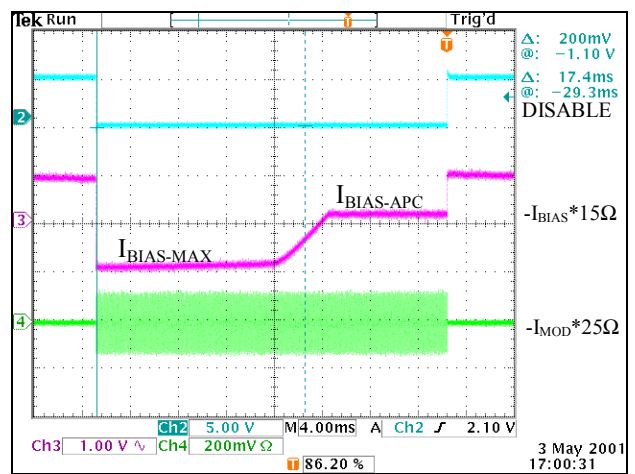
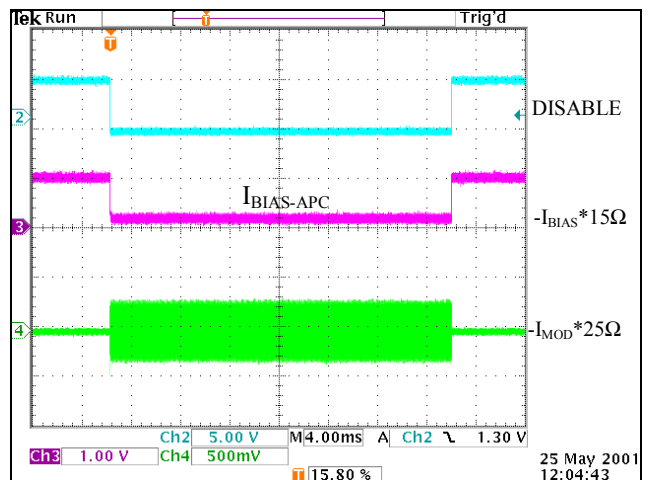
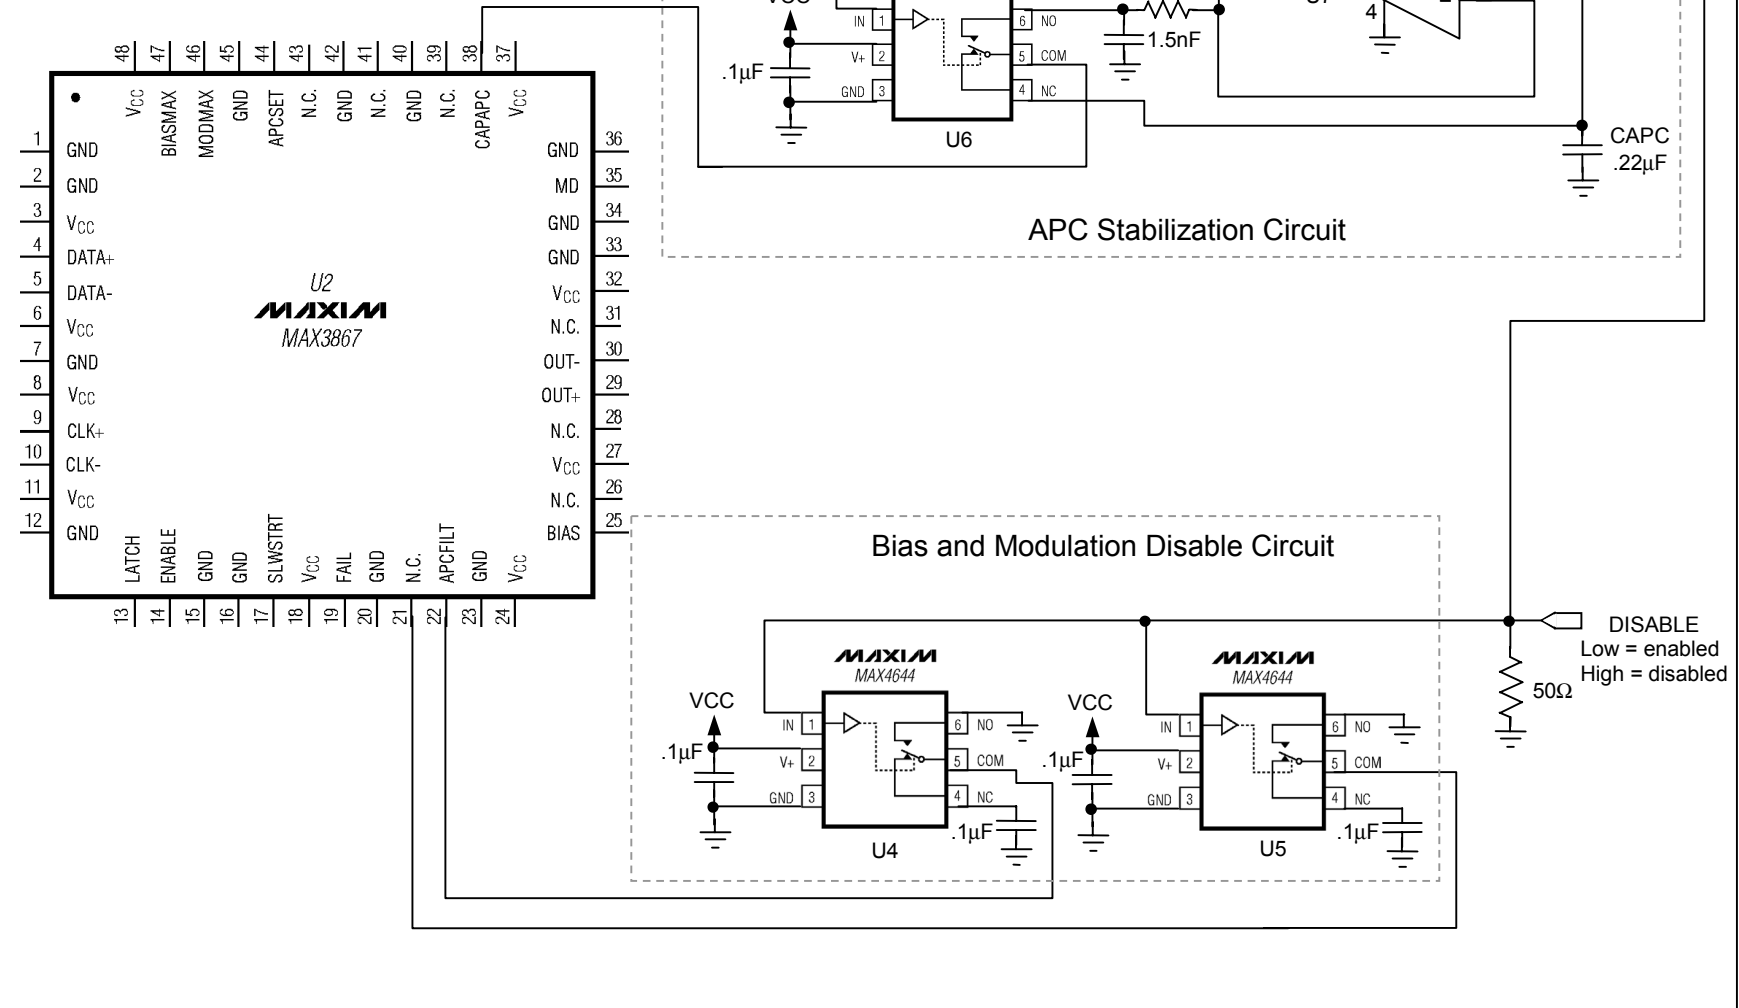

Figure 4. Oscilloscope plot showing bias current with nonstabilized APC loop
Figure 5. Oscilloscope plot showing bias current with stabilized APC loop
Figure 6. Schematic showing burst-mode modifications to the MAX3867 evaluation kit
The measurements included in this design note were made using a MAX3867 EV kit (electrical configuration) that was modified as shown in the schematic in Figure 6. Two MAX4644 analog switches (U4 and U5) were used to ground pins 21 and 22.
Switching the bias current on and off (as described above) can cause the automatic power control (APC) circuit in the MAX3867 to malfunction. This is because the APC loop time constant (controlled by C_{APC}) is long compared to the burst time. While the bias current is disabled, the APC loop does not function, and the bias current increases toward $I_{BIASMAX}$. When the bias current is enabled (during a burst), the APC circuit will adjust the bias current toward I_{APCSET} . Thus, when the MAX3867 is operated with the APC circuit in the "closed-loop" mode, the bias current can change during each burst, as shown in Figure 4. The beginning and ending values of the bias current are determined by the length of the off/on times and by the value of C_{APC} , $R_{BIASMAX}$, and R_{APCSET} .
APC loop stabilization is accomplished by the circuit illustrated by U6 and U7 in the schematic (Figure 6). This circuit connects the C_{APC} capacitor to the CAPAPC pin when the laser driver is enabled (during a burst) and disconnects the C_{APC} capacitor when the laser driver is disabled. Figure 5 shows an oscilloscope plot equivalent to the one in Figure 4, but with the APC loop stabilized so that the bias current begins the burst at the level set by R_{APCSET} .
The schematic of the test circuit, in Figure 6, shows the modifications that were made to the electrical configuration of a standard MAX3867 evaluation kit. The complete MAX3867 EV kit data sheet can be downloaded from <http://pdfserv.maxim-ic.com/arpdf/MAX3867EVKIT.pdf>. Note that the output of the electrical configuration of the evaluation kit is AC-coupled to facilitate the connection of an oscilloscope. In most burst-mode applications, the output should be DC-coupled. Also, the MAX3867 voltage supply (Vcc) must be 5 volts for DC-coupled operation.
Optical evaluation of the burst-mode modified MAX3867 was performed using the optical configuration of the MAX3867 evaluation kit, with the output DC-coupled to a Fujitsu FLD3C5LK laser diode. Modifications to the optical configuration of the evaluation kit are identical to those shown in the schematic of Figure 6, along with additional changes (not shown in the figure) such as:
3. Remove C5, C23, and C16 from their normal locations on the evaluation kit printed-circuit board, and place them in the locations indicated by the schematic in Figure 6.
- APC turned on and stabilized by using APC stabilization circuit shown in Figure 6.